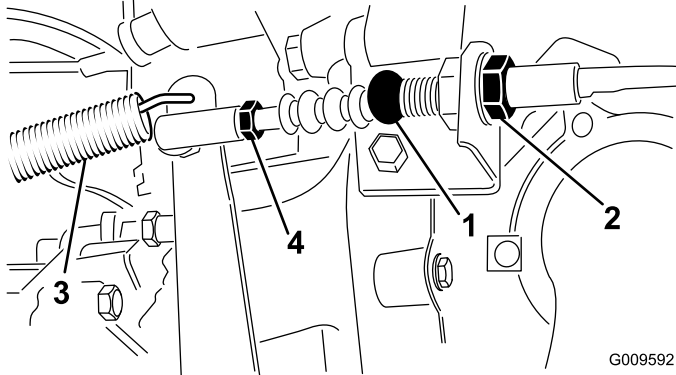

Figure 64
1. Loosen the jam nuts securing the clutch cable to the bracket on the bell housing (Figure 64).